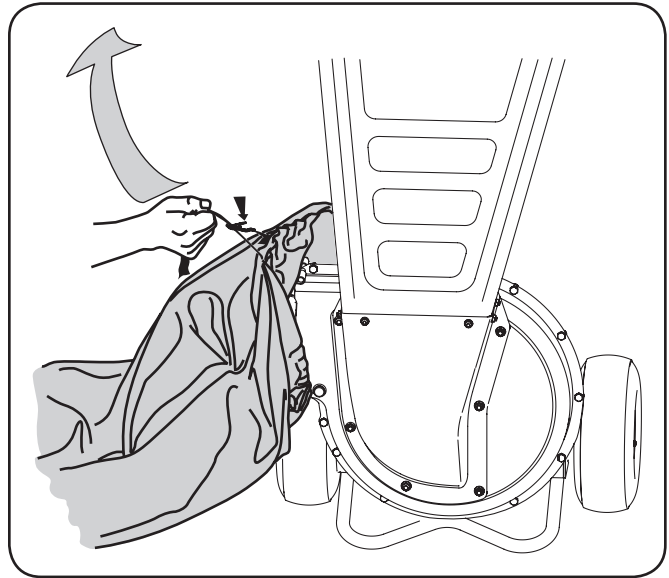

Figure 3-2
1. Place the opening of the bag completely over the chute deflector. See Figure 3-2.